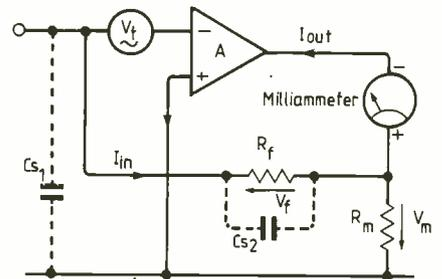

Fig.2. Voltage generator  $V_t$  represents temperature and other sources of drive.
The temperature dependence of operational amplifiers is usually expressed in terms of the equivalent difference voltage between the input terminals and, for modern monolithic integrated circuits, figures of 1 to  $5\mu\text{V}/^\circ\text{C}$  are commonly specified. Unfortunately, due to the need for very high input resistance, it is essential to employ mosfet transistors in the input stage of electrometer amplifiers; devices which can normally be matched to better than  $100\mu\text{V}/^\circ\text{C}$  in monolithic pairs. Consequently, the virtual-earth driving point can drift by up to 2mV for  $20^\circ\text{C}$  temperature excursions. This effect, together with other sources of drift, can be represented by an additional voltage generator  $V_t$ , as shown in Fig.2.
**Response time.** Also shown in Fig.2 are two stray capacitances  $C_{s1}$  and  $C_{s2}$ , which can